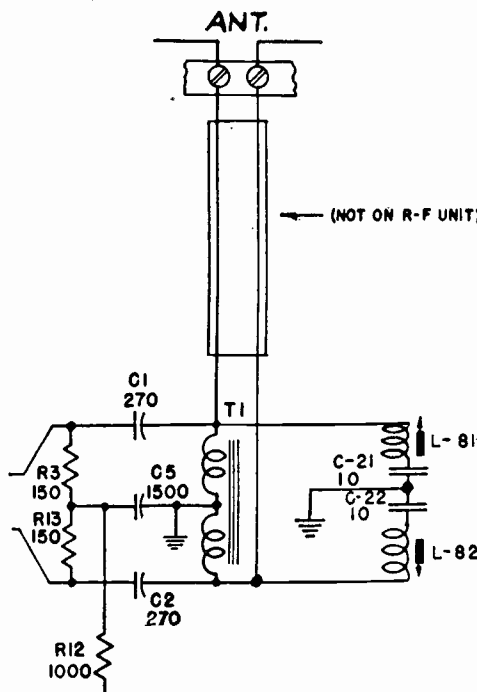

Fig. 4. The f-m traps used in the 9-408 and 9-408(50).
A final difference between these two groups of receivers is the use of two f-m traps L81 and L82 in the 9-408 and 9-408(50) series. These are connected as shown in Fig. 4. See trap adjustment data elsewhere in this issue of Successful Servicing.